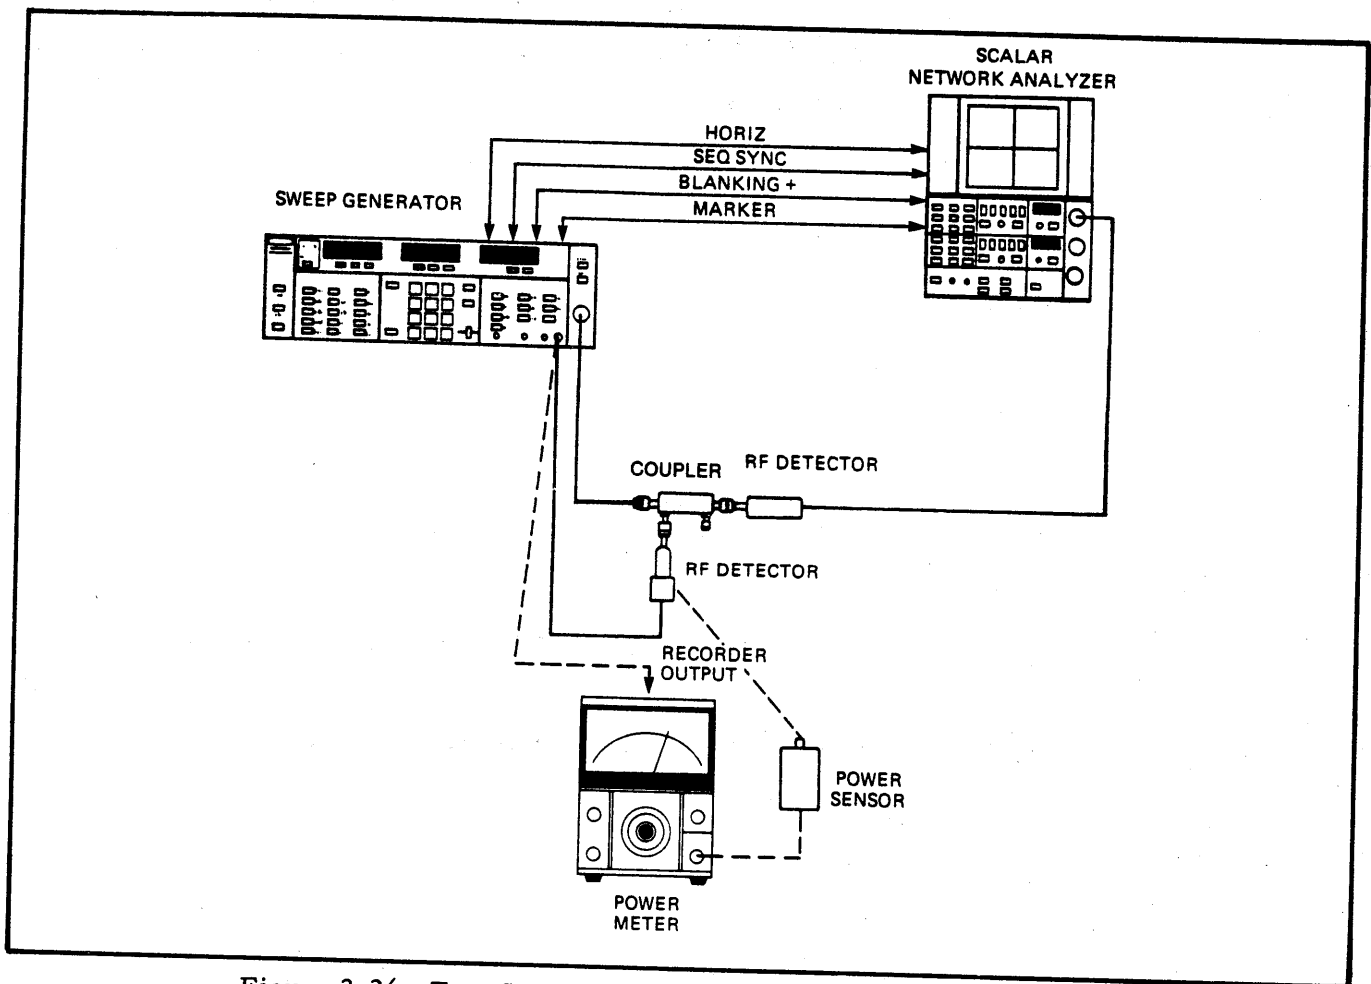

Figure 3-26. Test Setup for External Leveling (except 6642A)
vided by the front panel EXTERNAL INPUT connector and the LEVELING-DETECTOR or -POWER METER pushbutton. A test setup for external leveling is shown in Figure 3-26; the operational checkout procedure is given in Table 3-7.
1. Connect test equipment for detector leveling, as shown by the solid lines in Figure 3-26.